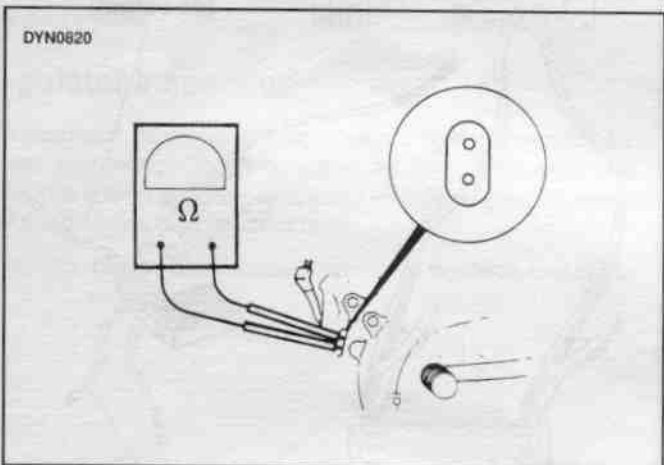

Figure 8-20. Check for Stator Resistance
3. See Figure 8-20. Check the resistance using an ohmmeter set on the RX1 scale. Resistance should be 0.1-0.2 ohms across the stator socket. If the resistance is lower, the stator is damaged and must be replaced.